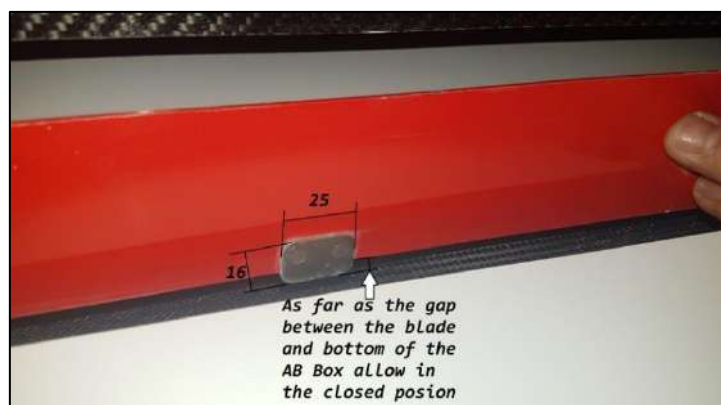
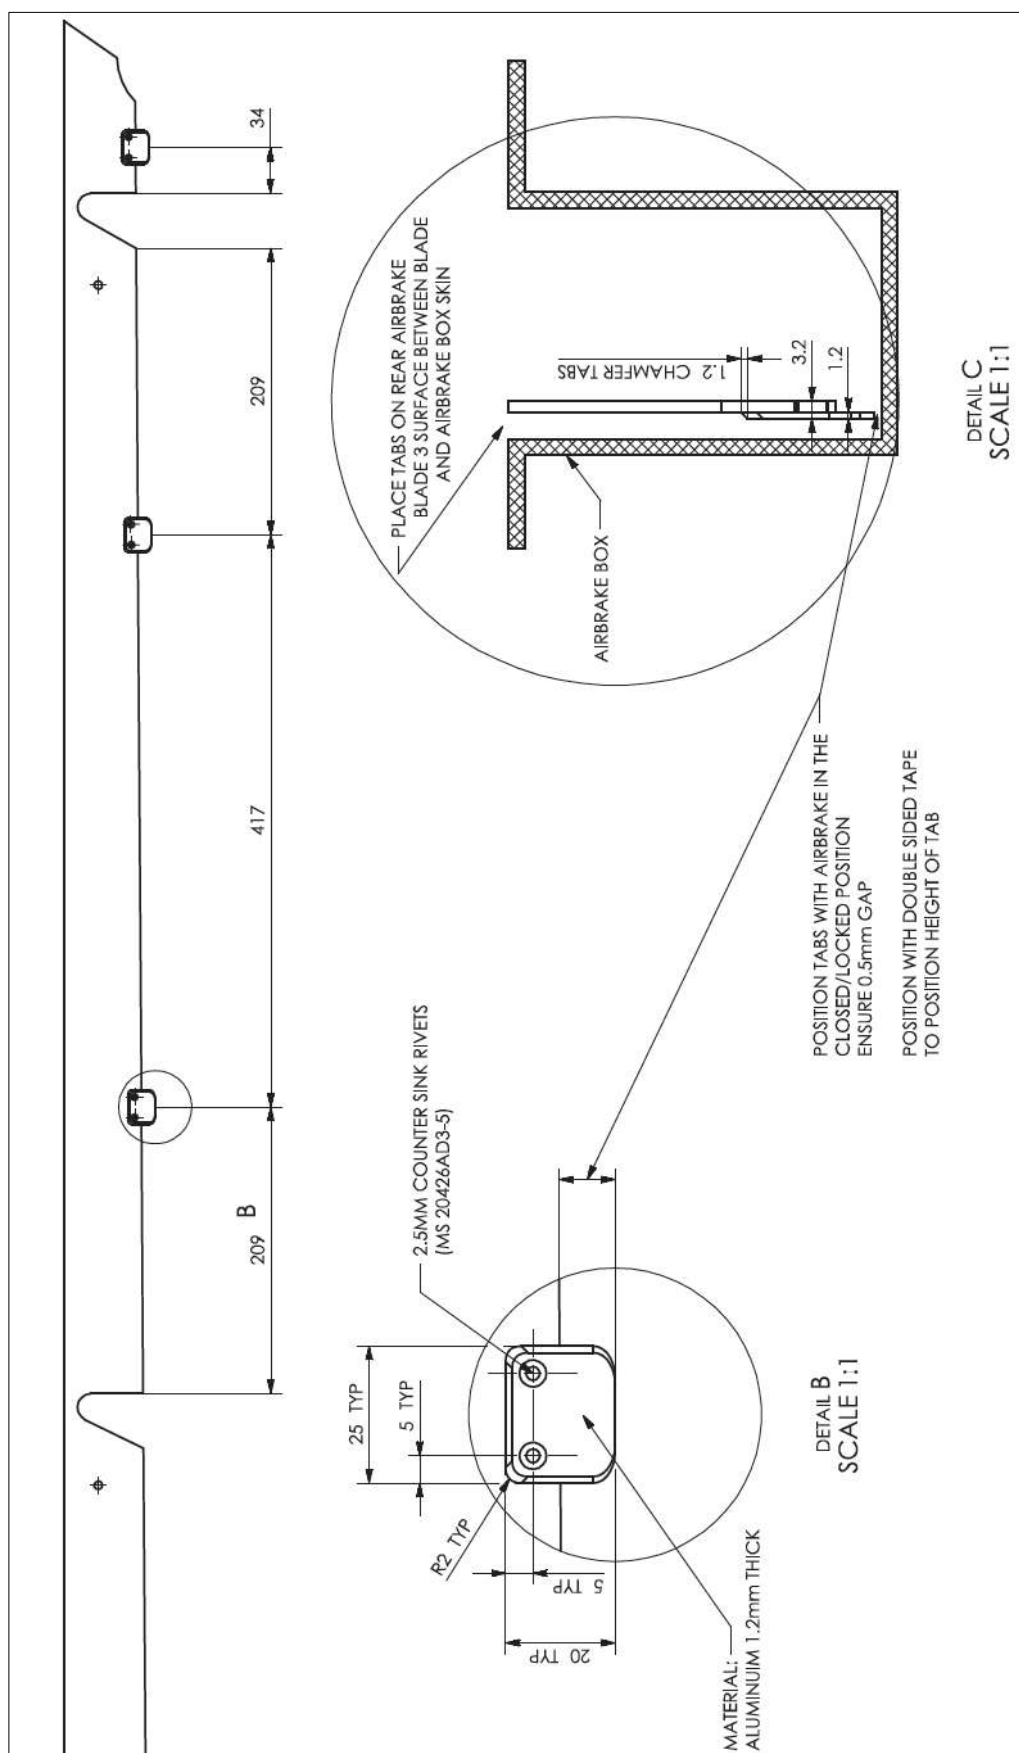

Figure 27-35: Metal tab depth determined by airbrake box bottom surface
Figure 27-39: Airbrake blade 3 fouling inserts
1. Apply clay to the bottom surface of the airbrake box to the areas where the metal tabs are bolted onto airbrake blade 3 according to Figure 27-39.
3. Apply double sided tape to the metal tabs and stick onto airbrake blade 3 according to Figure 27-39. The tabs must be displaced according to the measurements taken (Figure 27-35).